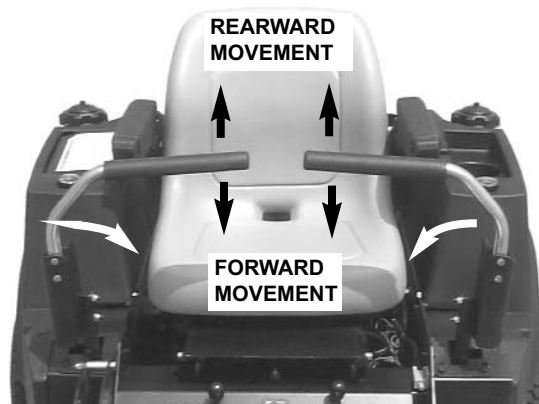

FIGURE 3.12
2. Drop motion control levers down from neutral lock positions. See Figure 3.12.
3. Move motion control levers gently and with caution in desired direction. See Figure 3.12.